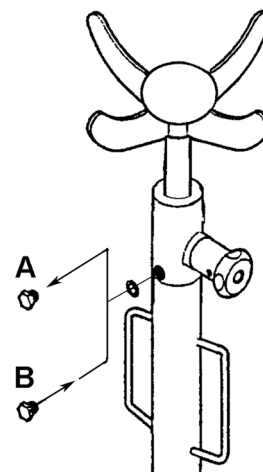

fig.2
5. Remove the transportation oil plug and replace with the operating plug (identified by a hole in the plug head shown in fig.2)